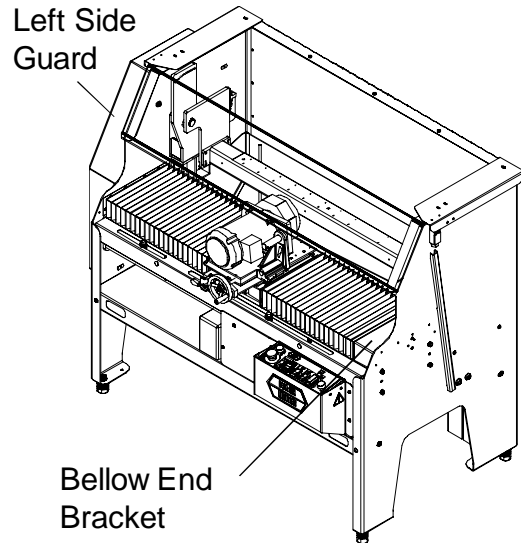

FIG. 9
3. Attach the outer end of each bellows to the Grinder leg panel. (See Fig. 9.) Use six bolts, and hex nuts on the left leg. The bolt heads go on the bellows side of the brackets. Attach the Bellows End Bracket with 4 screws and lock washers.